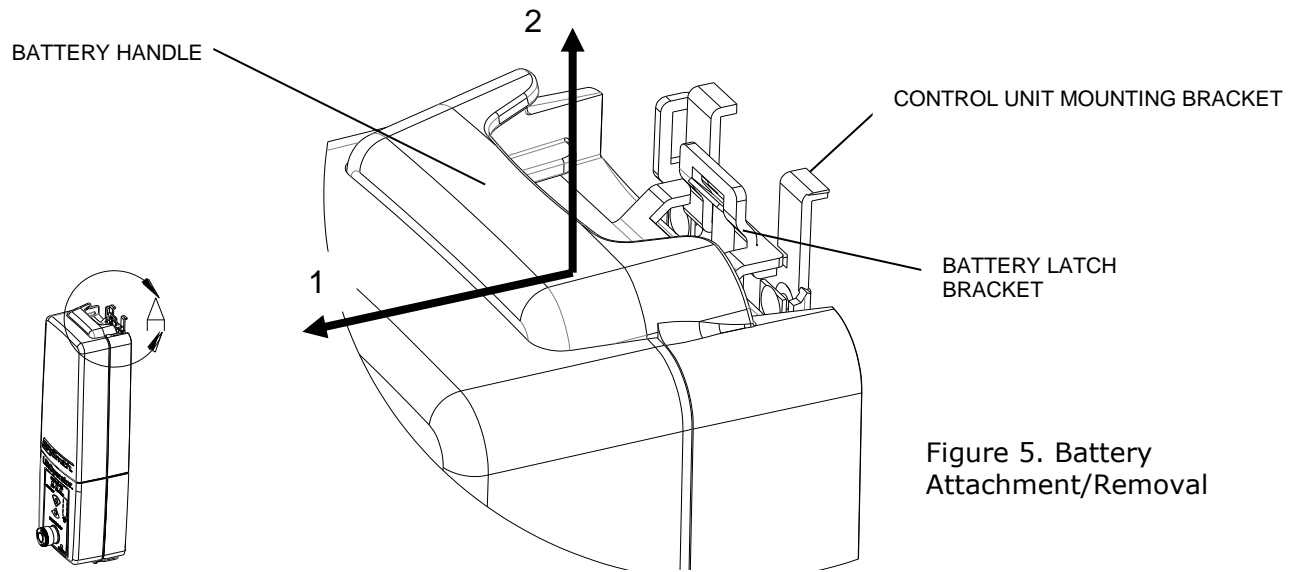

Figure 5. Battery Attachment/Removal
10. Attach battery to LiftOperator control box making sure that the battery latch bracket locks into the slots on the control unit mounting bracket. To remove the battery from the control unit, pull outward on the battery handle until the battery latch bracket clears the slots in the control unit mounting bracket, then pull upward, see **Figure 5**